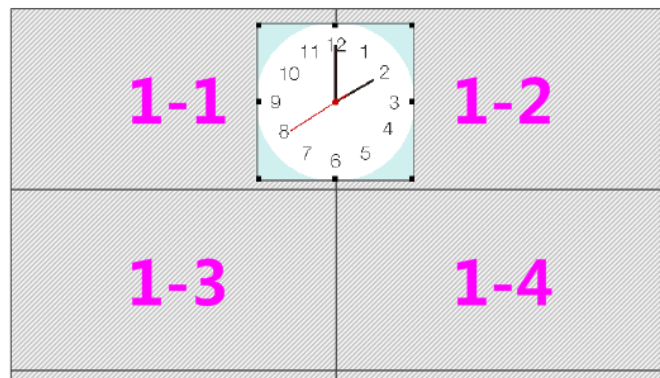

Figure 3.5-23 Screen Array-Analog Clock
- Specially, please avoid using the crossing layout for analog clock element. Take the following illustration as an example to this point. **For example:** as shown in **Figure 3.5-23**, the analog clock is arranged between the two screens connected with the first and the second output interface, please do not use this kind of arrangement for the analog clock window.